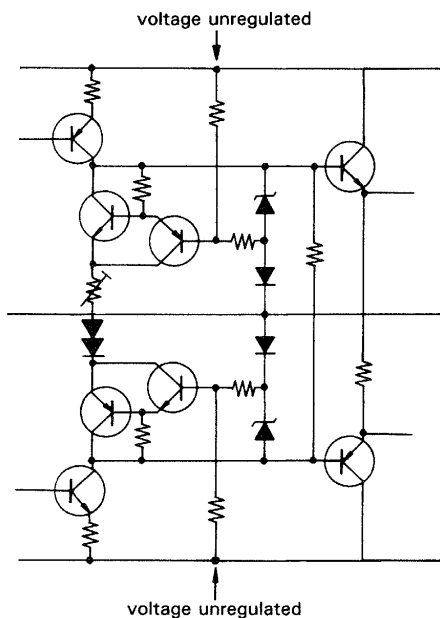

Fig. 26 Fed from voltage-unregulated power source
- (2) In Fig. 26, (1) has been simplified. This has been employed in A-5, A-6, SX-5, SX-6, SX-7, etc.